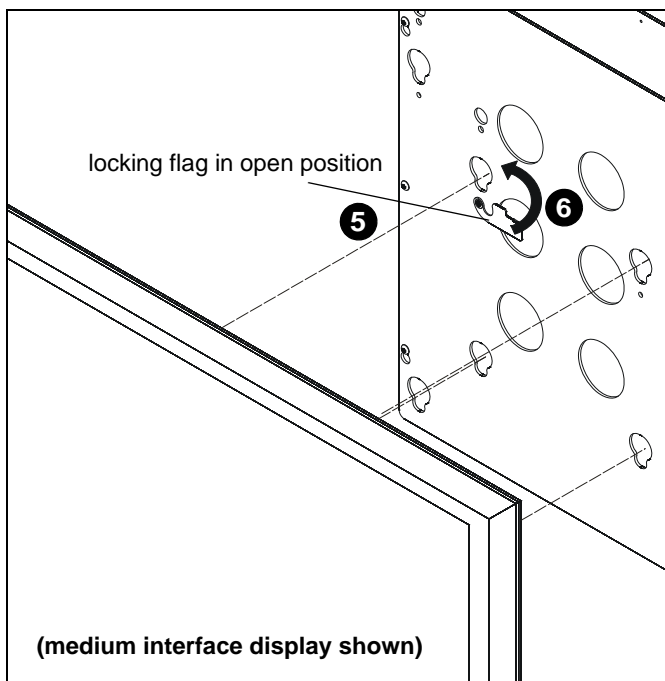

Figure 6
4. Make sure locking flag on CPU face plate is in open position. (See Figure 6)
6. Move locking flag (C) to closed position to secure display to CPU accessory. (See Figure 6)